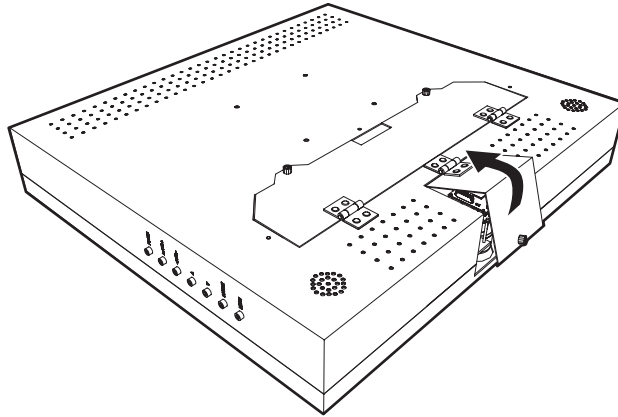

Figure 13. Access Door
2. Use the thumb screw on the bottom of the monitor to open the access door. Refer to Figure 13.